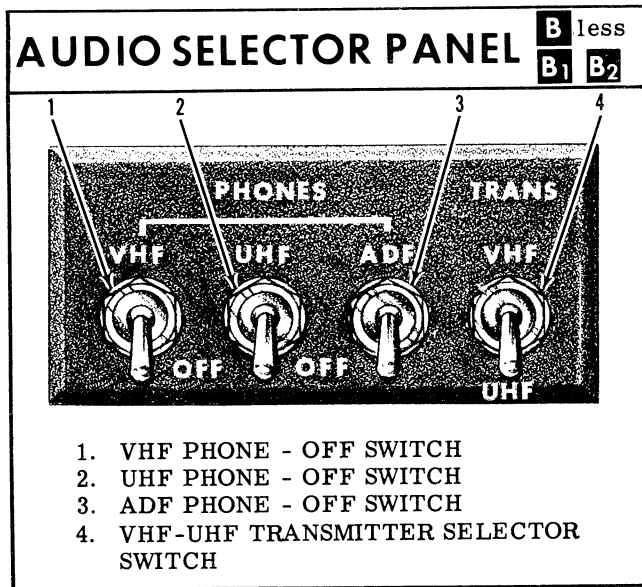
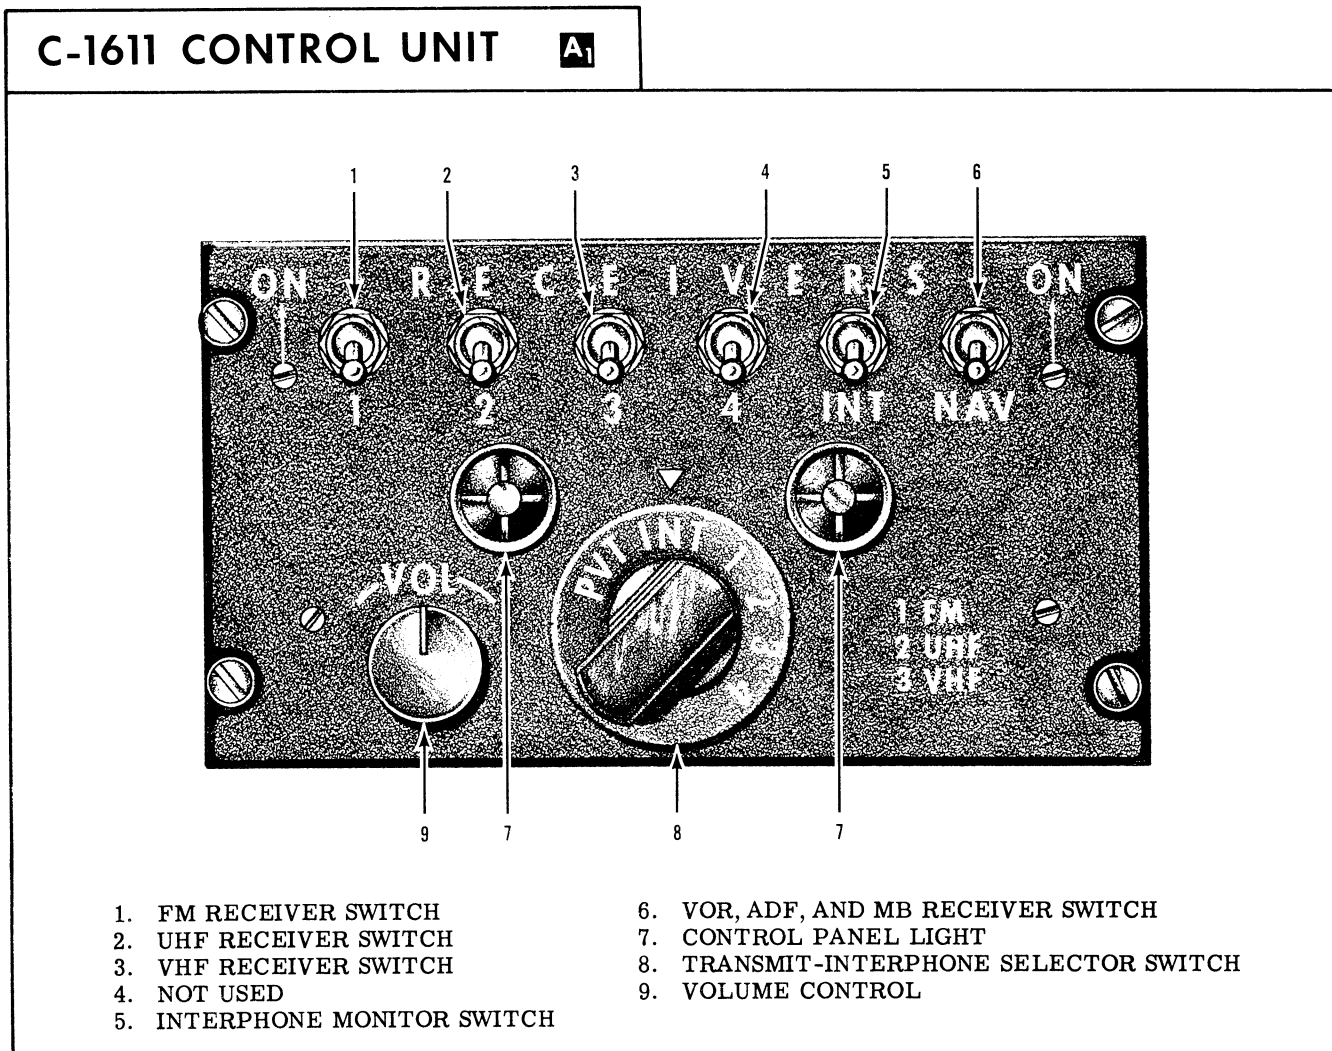

Figure 4-7.
Figure 4-10.
The communication receiver switches 1 (FM), 2 (UHF), 3 (VHF), 4 (not used) and the navigation receiver switch (6, Figure 4-10) connect or disconnect the audio circuit of the receiver to or from earphones of headset-microphone. The RECEIVERS INT switch (5, Figure 4-7) connects or disconnects the earphones from the interphone system. When any switch or combination of switches is placed in the ON position, the selected signals can be monitored. When the switch is placed in the OFF position, the corresponding signal is cut out. Exceptions to this are when the function selector switch is in a position other than interphone. The mode of operation selected 1, 2, 3, indicated by the function selector switch will then be received regardless of the position of the receiver switches.
The function selector switch (8, Figure 4-10) has six positions labeled PVT, INT, 1 (FM), 2 (UHF), 3 (VHF), and 4 (not used). The PVT interphone position provides hot mike operation. With the function selector in the INT (interphone) position another station may be called, only if the talk switch is depressed. With the function selector switch set to one of the numbered positions, the signal represented by the number will be monitored regardless of the position of the receiver switches, and transmission can be accom-